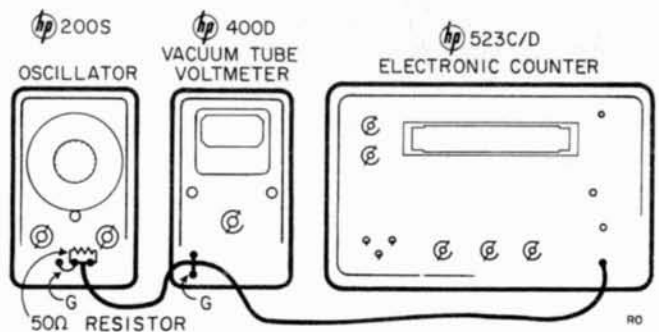

Figure 4-2. Calibration Test Setup
- 1) Connect the 200S to an ac voltmeter and a 523D Electronic Counter as shown in figure 4-2. Substitute a 403A for the 400D/H/L in figure 4-2.
- b. Connect the 200S to a 400D/H/L AC Voltmeter and a frequency measuring device (counter or frequency standard) as shown in figures 4-2 or 4-3.
- a. Switch 200S RANGE to X100. Connect the equipment as shown in figures 4-2 or 4-3.